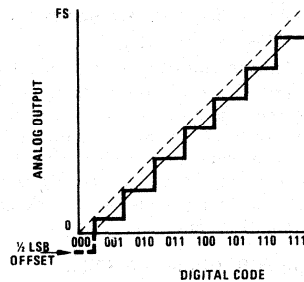

FIGURE 5. Linear,  $\frac{1}{2}$  LSB Offset Error
**Offset Error** (zero error) is the output voltage of a DAC with zero code input, or it is the required mean value of input voltage of an ADC to set zero code out. (See figure 5.) Offset error is usually caused by amplifier or comparator input offset voltage or current; it can usually be trimmed to zero with an offset zero adjust potentiometer external to the DAC or ADC. Offset error may be expressed in % FS or in fractional LSB.